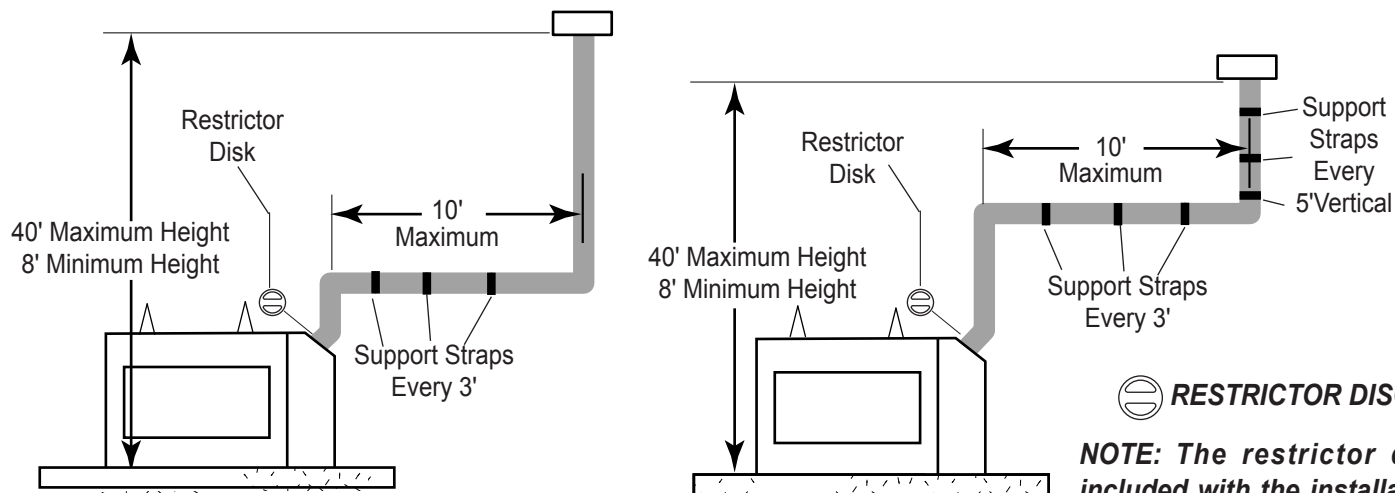

Figure 25- Support Straps for Horizontal Runs
- Vertical installations up to 40' (12m) in height. Up to a 10' (3m) horizontal vent run can be installed within the vent system using a maximum of two 90° elbows. See Figure 25.
**NOTE:** If an offset is needed to avoid obstructions, you must support the vent pipe every three (3) feet. Use wall straps for this purpose. See Figure 25, page 22. Whenever possible, use 45° elbows instead of 90° elbows. The 45° elbow offers less restriction to the flow of the ue gases and intake air.